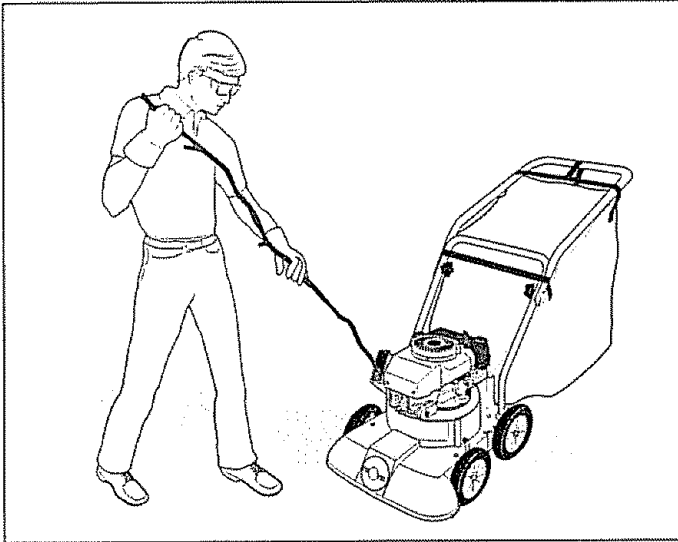

Figure 26: Using the chipper.
2. Stand at the side of the machine, and carefully feed small branches and twigs (up to 1-1/2 inch in diameter) into the chipper chute. See Figure 26 which shows chipper operation.